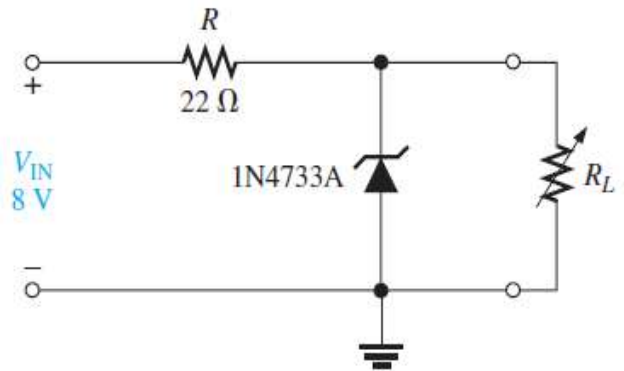

Figure 4
7. A loaded zener regulator is shown in Figure 4.